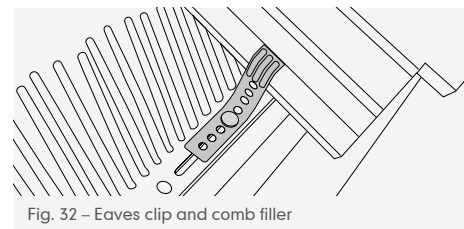

Fig. 32 – Eaves clip and comb filler
- 2 All eaves course tiles should be twice fixed; nailed and/or clipped using a purpose-made Maxima eaves clip nailed to the fascia or tilting fillet (Fig. 32).